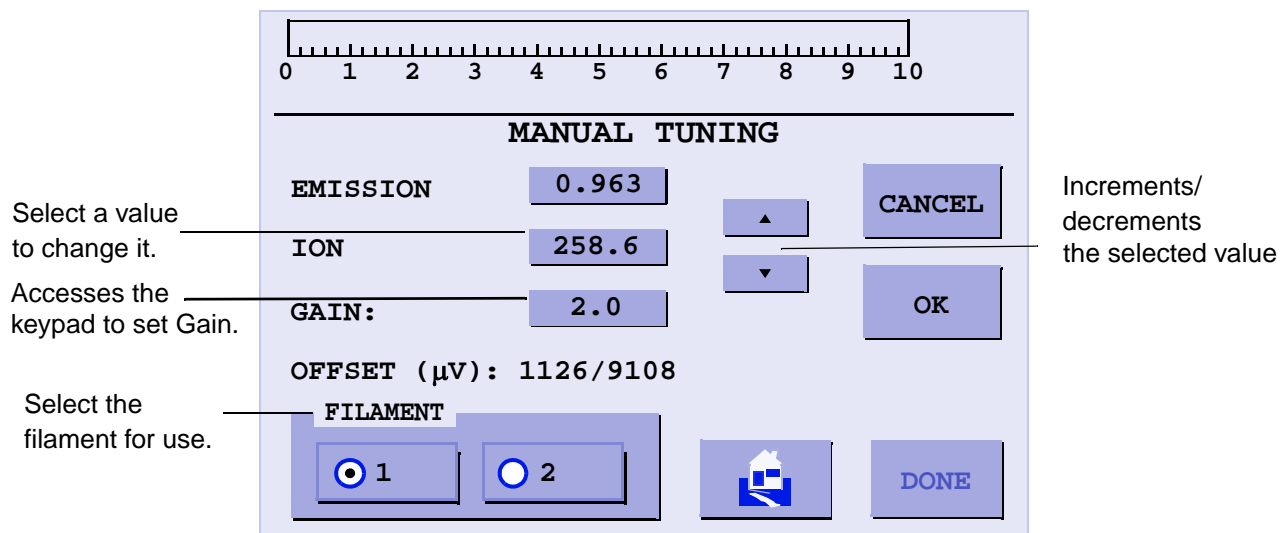

Figure 3-4 Manual Tuning
- Press **Manual Tuning** on the Set-Up screen and the Manual Spectrometer Tuning screen appears (Figure 3-4).